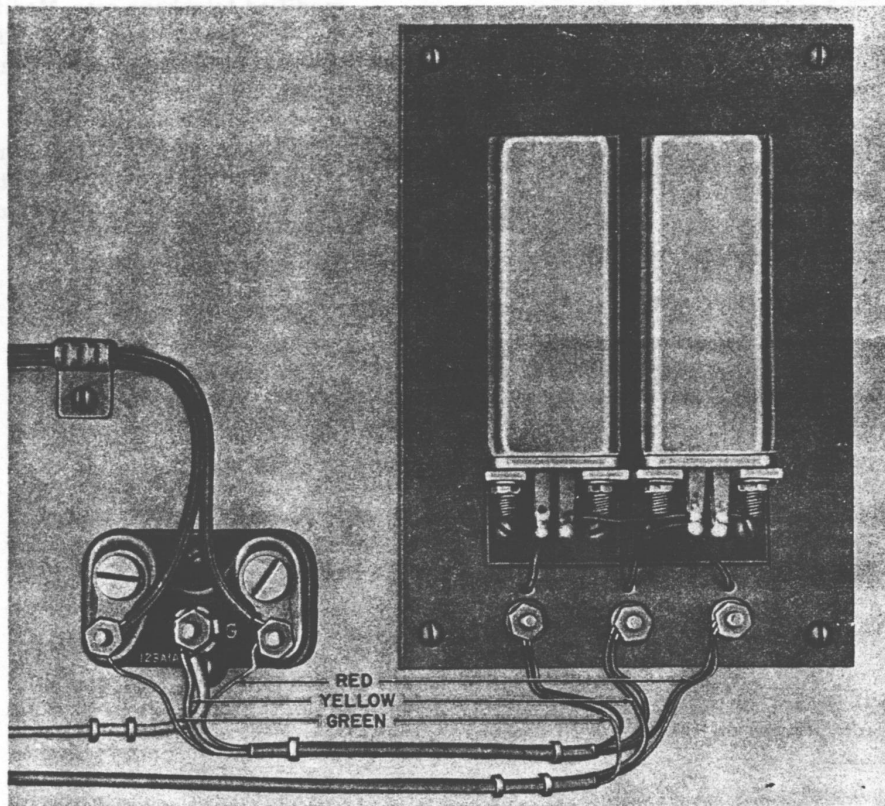

Fig. 10—123A1A Protector with 40BA Capacitor Installed (Early Model Show)
4.05 The 40BA capacitor (Fig. 10) is installed near and connected to protector with as short as possible piece of inside wire. Station wires must connect to the capacitor. Must be mounted in C or D Customer Service Closure when used outdoors or in damp exposed locations. Protector ground must be upgraded to the best possible ground available.